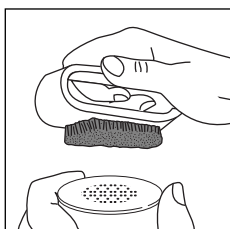
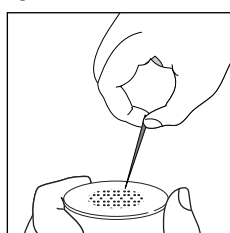

fig. 17
fig. 18
- Rinse all components and clean the metal filter thoroughly in hot water using a brush (fig. 17). Make sure the holes in the metal filter are not blocked. If necessary, clean with a pin (fig. 18).